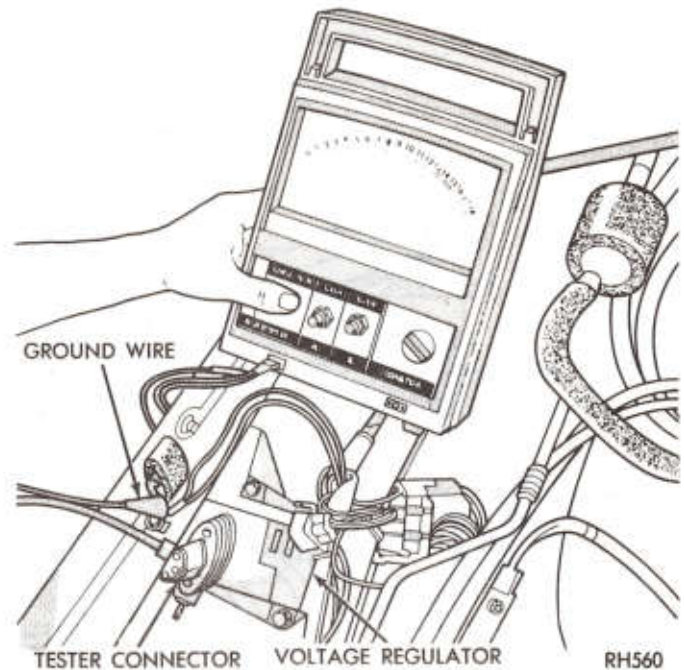

Fig. 4—Depressing Voltage Regulator Test Button
(4) Plug connector of Voltage Regulator Tester into voltage regulator on vehicle.
(5) Place knob on tester to regulator test position.
(6) Press test button on Voltage Regulator Tester (Fig. 4). Voltage reading should be within limits as follows: